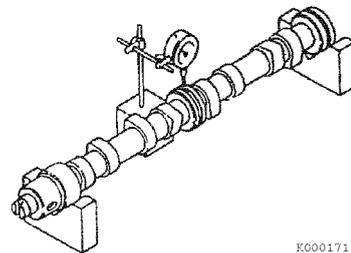

Figure 6-82
1. Use V-blocks and a dial indicator to check camshaft bend (**Figure 6-82**). Place the indicator on the center bearing journal.